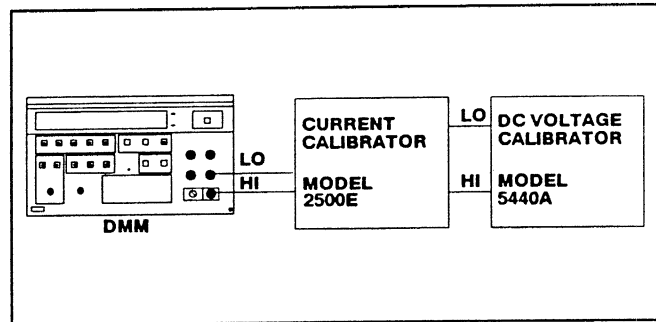

Fig. 3-5. DC Current Calibration Configuration.
- c. Connect the DMM to the DC current calibrator (Fig. 3-5).